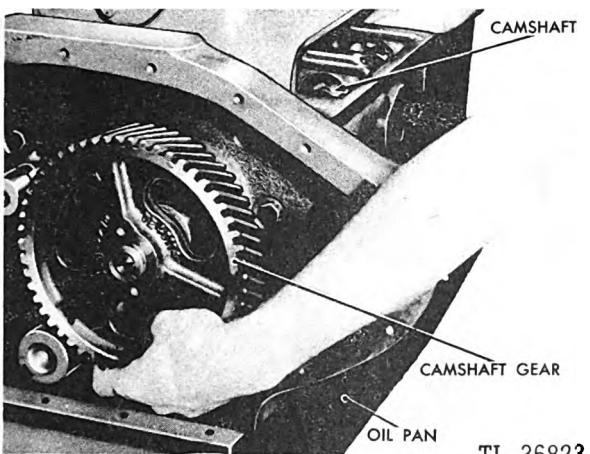
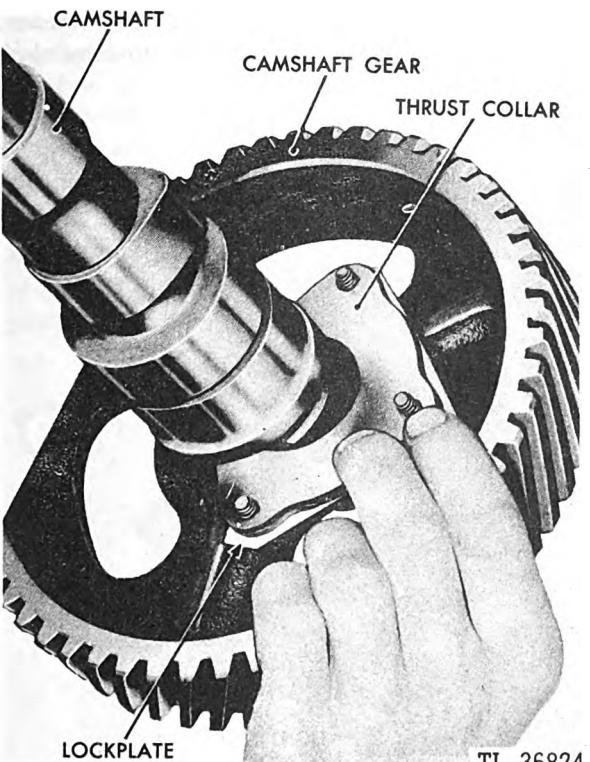
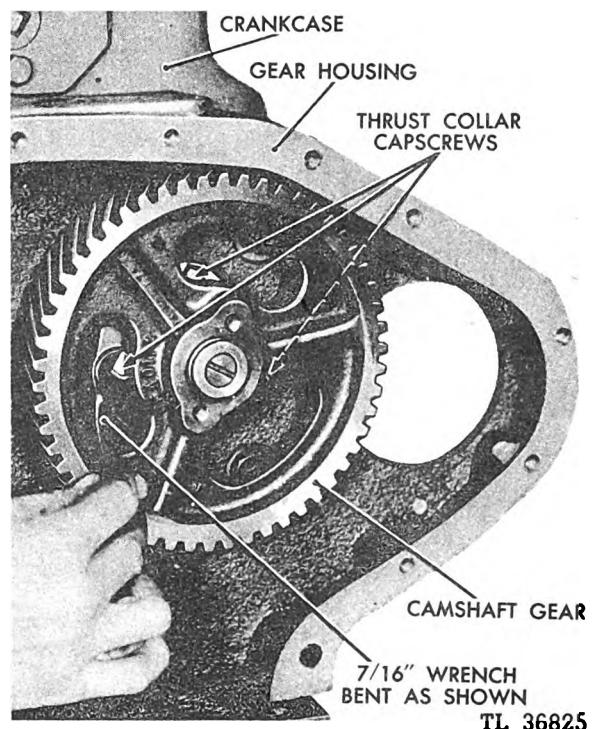
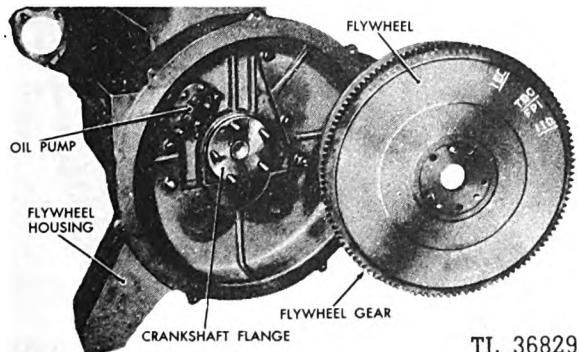

Fig. 171. Installing Camshaft
Fig. 172. Installing Thrust Collar on Camshaft
Fig. 173. Tightening Cam Lock Plate
Fig. 177. Flywheel and Flywheel Housing
(See Figure 171.) Before meshing the camshaft gear and the crankshaft gear, align the marks on the two gears, as shown in Figure 131, and insert the camshaft thrust collar with lock plate and capscrews onto the camshaft. (See Figure 172.) The desired clearance between the thrust collar and camshaft should be .003 inch to .009 inch; permissible .015 inch. (See Figure 94.) Push the camshaft into position. Tighten the three capscrews with a  $\frac{1}{16}$ -inch wrench, bent close to the head of the wrench. (See Figure 173.)
**p. Installing Flywheel and Stub Shaft.** (1) Before installing the flywheel, make certain that all the dirt has been removed from the crankshaft flange and the crankshaft recess in the flywheel. Feel the surfaces for burrs and nicks. (See Figure 177.) Because of an offset bolt, the flywheel goes on in only one position. Turn the crankshaft so that No. 1 and No. 6 pistons are on top dead center. Turn the flywheel so that the T. D. C. mark on the flywheel lines up with inspection hole in flywheel housing. (See Figure 171.) Slip the flywheel onto the crankshaft bolts.
(2) Rotate the stub shaft until the holes in the shaft flange line up with the flywheel bolts. Push the stub shaft onto the flywheel bolts. Install the special thin lockwashers and retain-